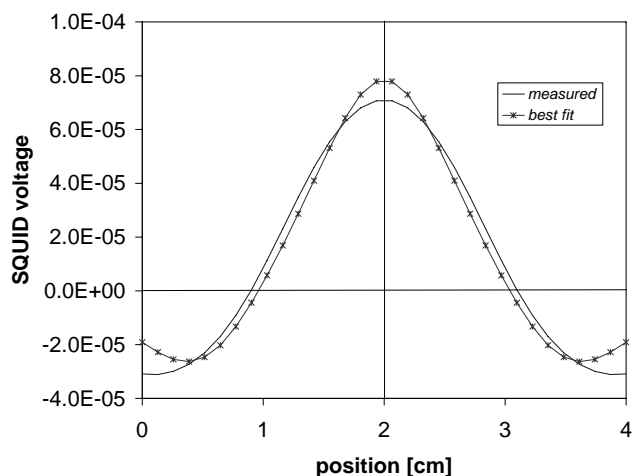

Figure 4. Output from Center procedure.
- 5) Run the **Center** procedure. A SQUID response curve will be displayed in about 30 seconds. The response curve should be symmetric with the large central bump (up for positive fields or moments) centered on the plot at ~2 cm, as in the example (Fig. 4). Check the magnetic moment; if > 0.5 emu, remove your sample, decrease the amount of material and re-start. *If there is not a recognizable central peak (positive or negative), there are two things to try:*